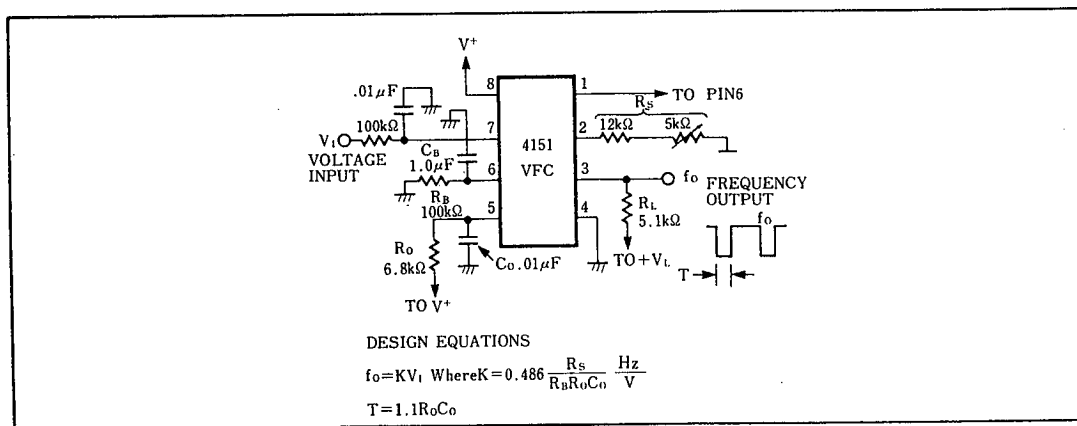
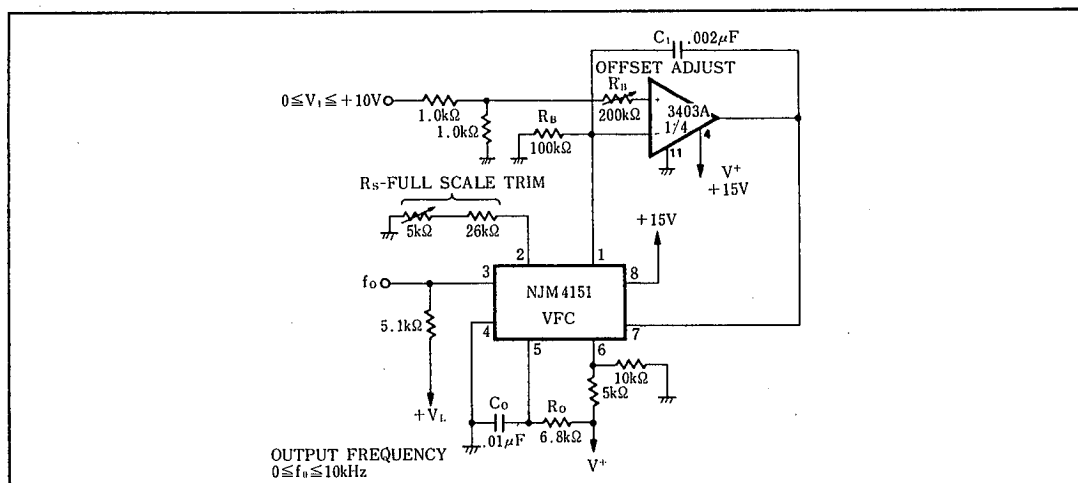
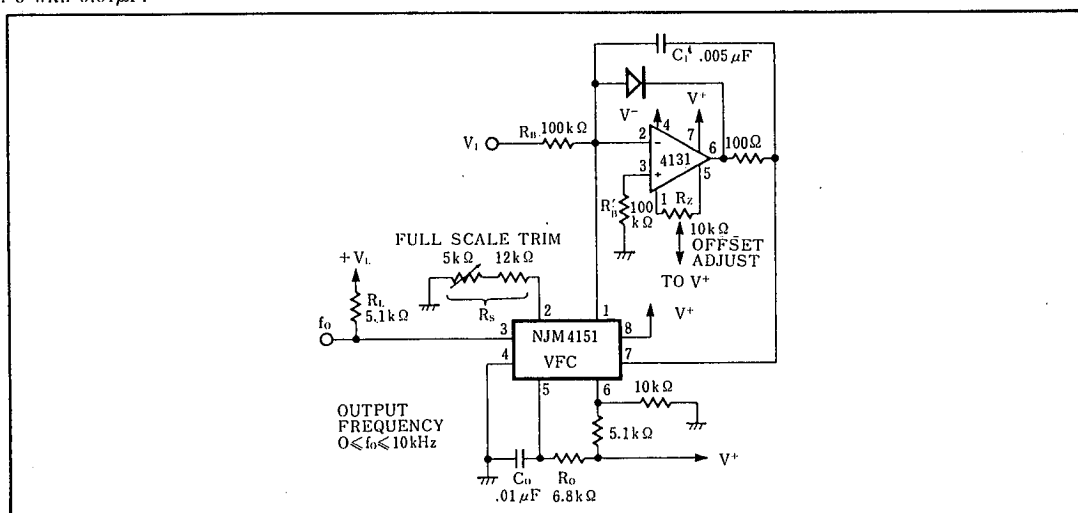

Figure 2. Single Supply Voltage-to-Frequency Converter
Figure 3. Precision Voltage-to-Frequency Converter Single Supply
Figure 4. Precision Voltage-to-Frequency Converter
Figure 2 shows the simplest type of VFC that can be made with the 4151. Input voltage range is from 0 to +10V, and output frequency is from 0 to 10kHz. Full scale frequency can be tuned by adjusting R_S , the output current-set resistor. This circuit has the advantage of being simple and low in cost, but it suffers from inaccuracy due to a number of error sources. Linearity error is typically 1%. A frequency offset will also be introduced by the input comparator offset voltage. Also, response time for this circuit is limited by the passive integration network $R_B C_B$. For the component values shown in Figure 2, response time for a step change input from 0 to +10V will be 135msec. For applications which require fast response time and high accuracy, use the circuits of Figure 3 and 4.
For applications which require a VFC which will operate from a single positive supply with positive input voltage, the circuit of Figure 3 will give greatly improved linearity, frequency offset, and response time. Here, an active integrator using one section of the NJM3403A quad ground-sensing op-amp has replaced the R_B - C_B network in Figure 2. Linearity error for this circuit is due only to the 4151 current source output conductance. Frequency offset is due only to the op-amp input offset and can be nulled to zero by adjusting R_B . This technique uses the op-amp bias current to develop the null voltage, so an op-amp with stable bias current, like the NJM3403A, is required.
In this application (Figure 4) the 4151 VFC is used with an operational amplifier integrator to provide typical linearity of 0.05% over the range of 0 to $-10V$. Offset is adjustable to zero. Unlike many VFC designs which lose linearity below 10mV, this circuit retains linearity over the full range of input voltage, all the way to 0V.
The 4131 operational amplifier integrator improves linearity of this circuit over that of Figure 2 by holding the output of the source, Pin 1, at a constant 0V. Therefore linearity error due to the current source output conductance is eliminated. The diode connected around the op-amp prevents the voltage at 4151 pin 7 from going below 0. Use a low-leakage diode here, since any leakage will degrade the accuracy. This circuit can be operated from a single positive supply if an NJM3403A ground-sensing op-amp is used for the integrator. In this case, the diode can be left out. Note that even though the circuit itself will operate from a single supply, the input voltage is necessarily negative. For operation above 10kHz, bypass 4151 pin 6 with $0.01\mu F$.
| | Figure 2 | Figure 3 | Figure 4 |
4. Avoid stray coupling between 4151 pins 5 and 7, which could cause false triggering. For the circuit of Figure 2, bypass pin 7 to ground with at least $0.01\mu\text{F}$. If false triggering is experienced with the precision mode circuits, bypass pin 6 to ground with at least $0.01\mu\text{F}$. This is necessary for operation above 10kHz .
1. Set $R_S=14\text{k}\Omega$ or use a $12\text{k}\Omega$ resistor and $5\text{k}\Omega$ pot as shown in the figures. (The only exception to this is Figure 4.)
- a) For the circuit of Figure 2 make $C_B=10^{-2}[1/f_0]$ Farads. Smaller values of C_B will give faster response time, but will also increase frequency offset and nonlinearity.
- a) For the circuits of Figure 2 and 3 keep the values of R_B and R_B' as shown and use an input attenuator to give the desired full scale input voltage.
- b) For the precision mode circuit of Figure 4, set $R_{11}=V_{10}/100\mu\text{A}$ where V_{10} is the full scale input voltage. Alternately the op-amp inverting input (summing node) can be used as a current input with full scale input current $I_{10}=-100\mu\text{A}$.
- I. Design a precision VFC (from Figure 4) with $f_0=100\text{kHz}$ and $V_{10}=-10\text{V}$.